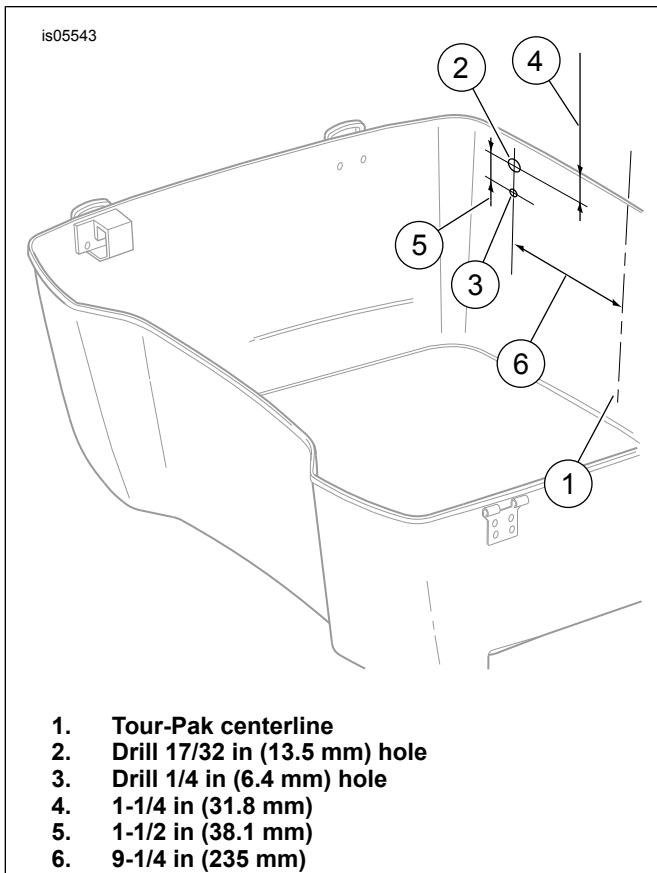

Figure 1. Tour-Pak CB Antenna Drilling Location
5. See Figure 1. Measure and determine the center (1) of the outside rear Tour-Pak wall.
10. Measure again and mark the tape 9-1/4 in (235 mm) (6) from the center line near the top of the tape strip and again near the bottom of the strip. Draw a line from the top mark to the bottom mark.
11. Measure down 1-1/4 in (31.8 mm) (4) from the top edge of the Tour-Pak on the right side vertical line and draw a short horizontal line (2) across the vertical line.
12. Measure down 1-1/2 in (38.1 mm) (5) from the **first** horizontal line and draw another short horizontal line (3) across the vertical line.
- b. Drill a 17/32 in (13.5 mm) hole (2) through the **upper** guide hole.